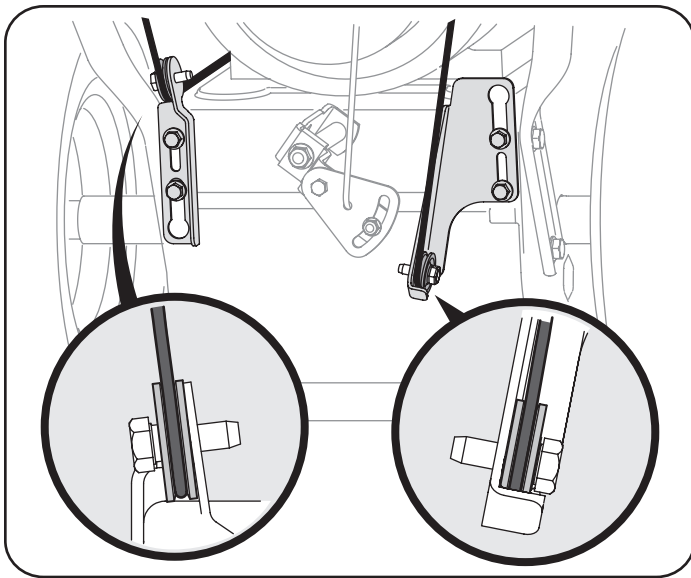

Figure 2
2. Observe the lower rear area of the snow thrower to be sure both cables are aligned with roller guides before pivoting the handle upward. See Figure 2.